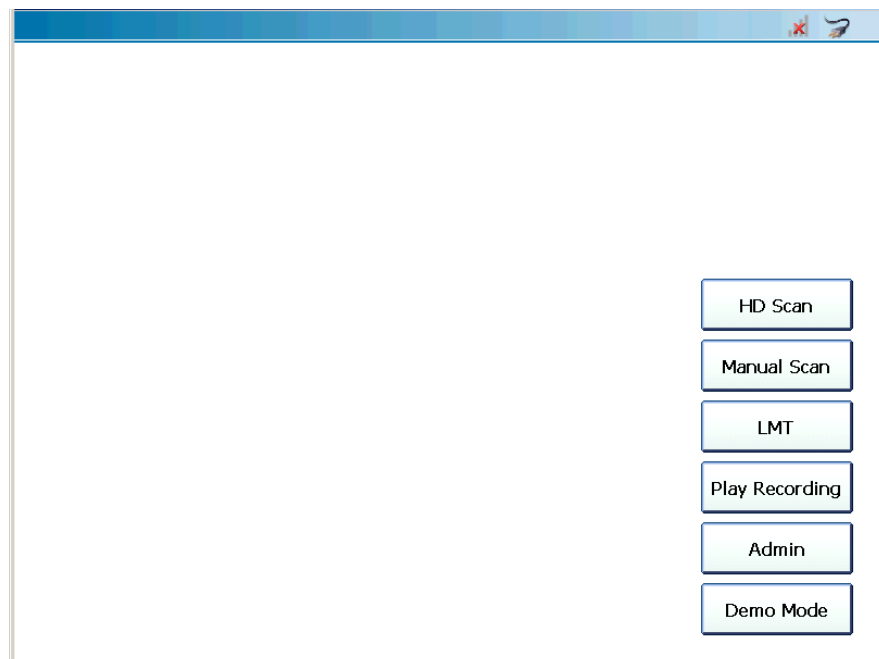

Figure 7.6 Main Menu
- **Exit**—go back to the Main Menu (Figure 7.6).
- 3 When you are finished playing the recording, touch **Exit** to go back to the Main Menu (Figure 7.6).